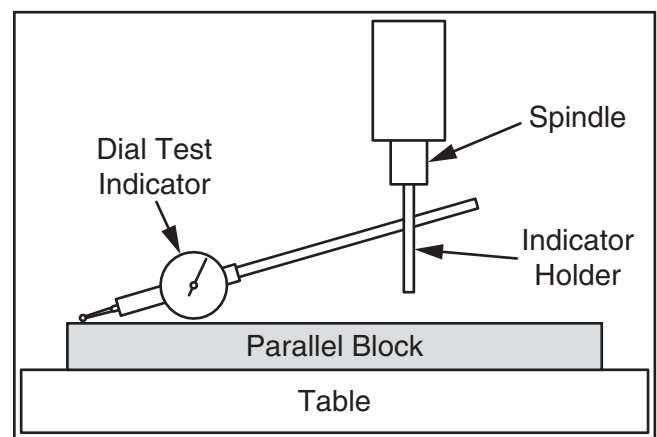

Figure 56. Dial test indicator mounted.
4. Install indicator holder in spindle or on quill, then mount indicator so that point is as parallel to block as possible (see **Figure 56**).
6. Rotate spindle by hand so that indicator point rests on one end of parallel block, as illustrated in **Figures 56–57**, then zero the dial.